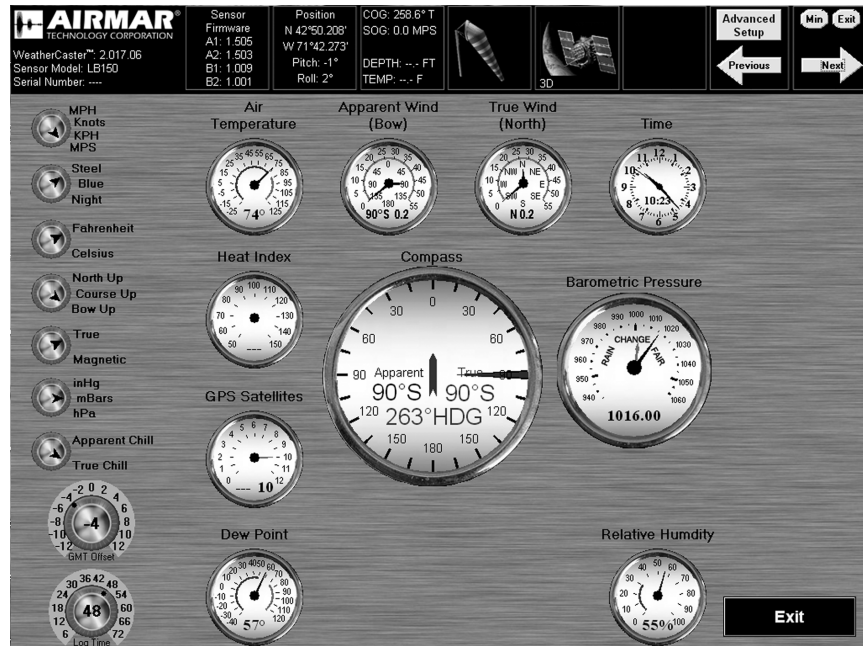

Figure 17. Setup Screen
When the WeatherCaster software opens, you will see a Setup screen with gauges and dials (see Figure 17). The gauges display the data being sent from the sensor in both analog and digital format. The dials along the left side are settings that can be changed by the user. *This screen is for setting up the display only.*
- Setup Screen—This screen contains gauges with dials along the left side. The dials have settings that can be changed by the user (see Figure 17).